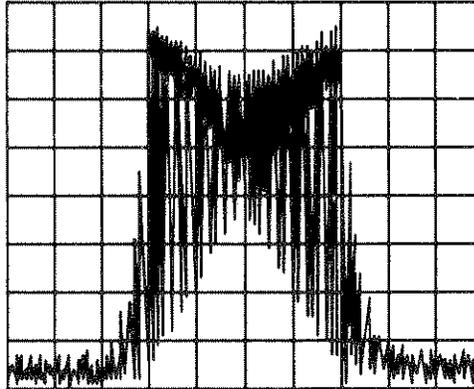

Figure 3-9. FM Functional Check Waveform
19. Set the spectrum analyzer span for 500 kHz, and a reference level of 0 dBm. The waveform displayed should be similar to that shown in Figure 3-9.